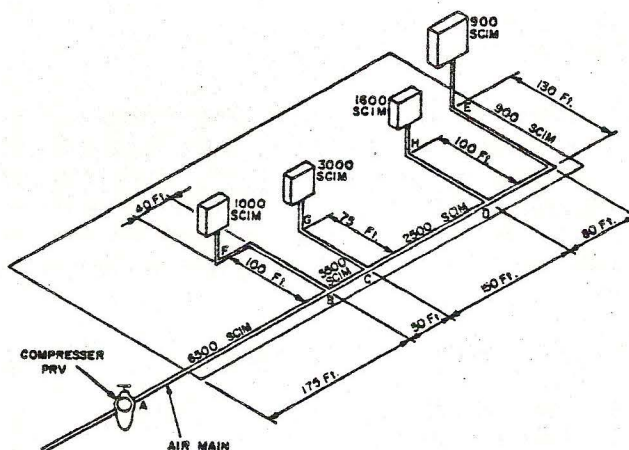

Figure 1
A single floor building requires a main feeder to supply the air operated equipment as shown in Figure 1.
- Step 1 Is complete per Figure 1.